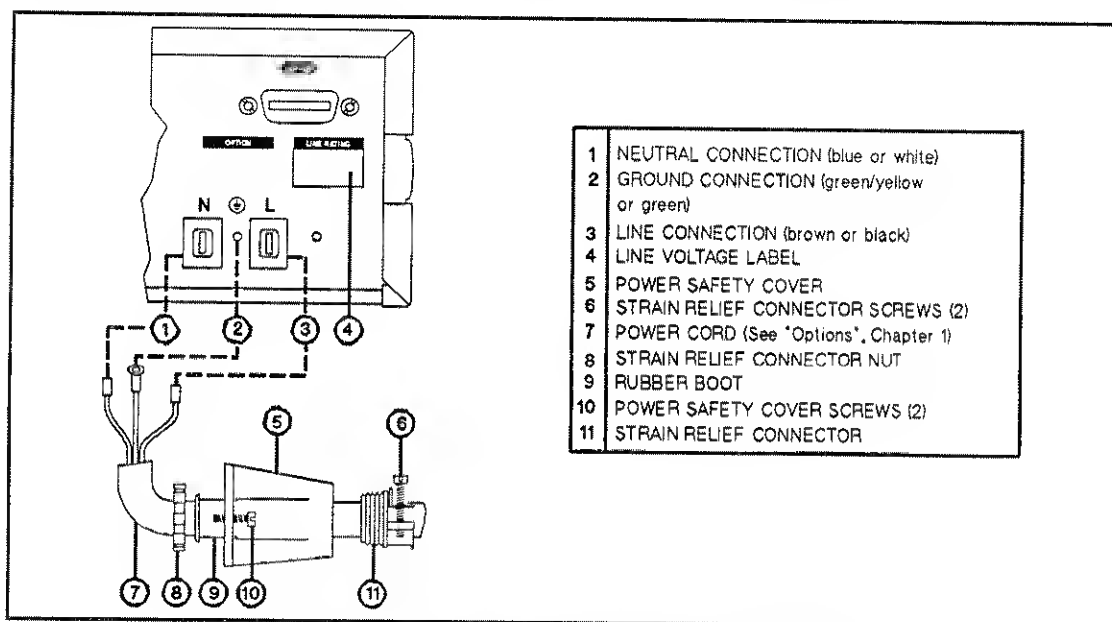

Figure 2-2. Series 657xA Power Cord Installation
1. Examine the Line Voltage label (4, Figure 2-2) and verify that the line voltage rating agrees with your power source. If it does not, see Appendix B.